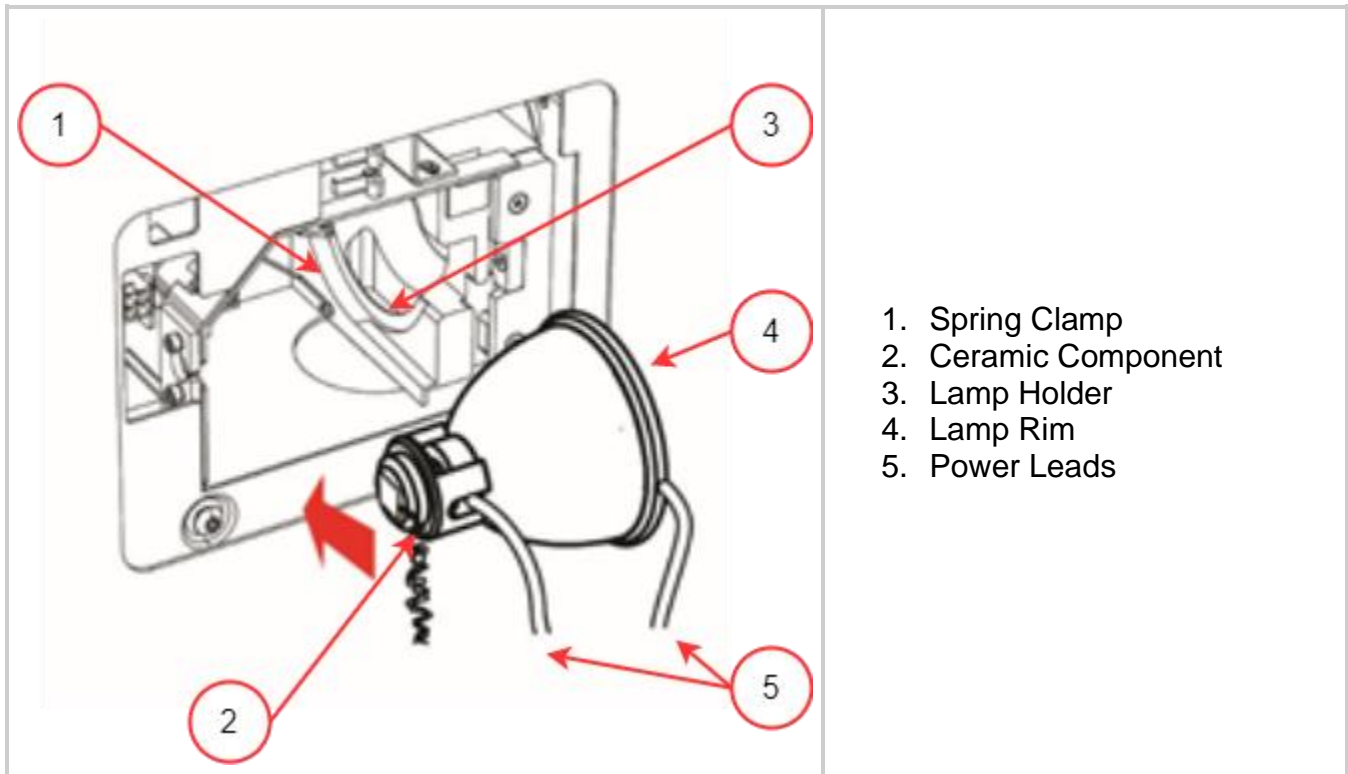

Figure 3-4 Lamp Installation Orientation
2. Carefully remove the lamp module from its container by holding either the ceramic component or the lamp rim only, as shown in **Figure 3-4**.
3. Position the lamp as illustrated in **Figure 3-4**, facing towards the unit's front panel and the POWER leads facing away from the unit. The lamp should be aligned so that the leading edge of the reflector (lamp rim) fits into the mounting groove on the lamp holder assembly.
1. Ensure that the middle body of the lamp is in position to fit into the spring clamp shown in **Figure 3-4**.